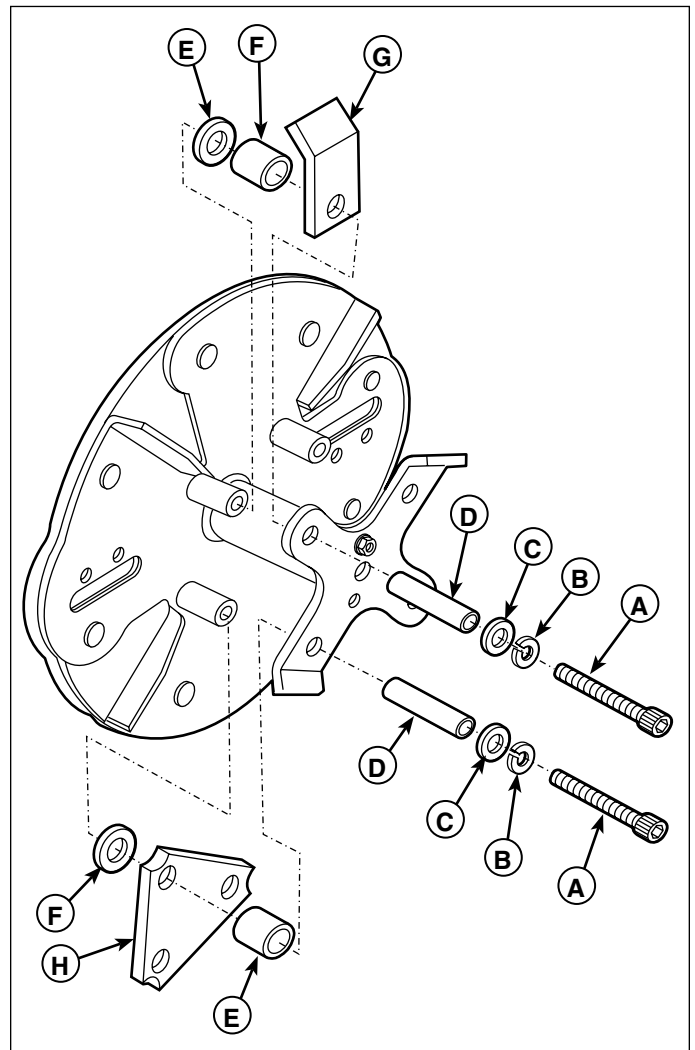

Figure 14. Removing the Rotor Housing
5. Note the assembly sequence of the hardware used to secure the hammers (Figure 14). Using a 5/16" allen wrench remove the socket head capscrew (A) and related hardware.
capscrews. Torque the socket head capscrews (A) to 30-35 ft. lbs. (41-47 N.m.) Refer to Figure 14 for assembly. The J-hammer (G) on the opposite side of the rotor faces outward for balanced rotation.